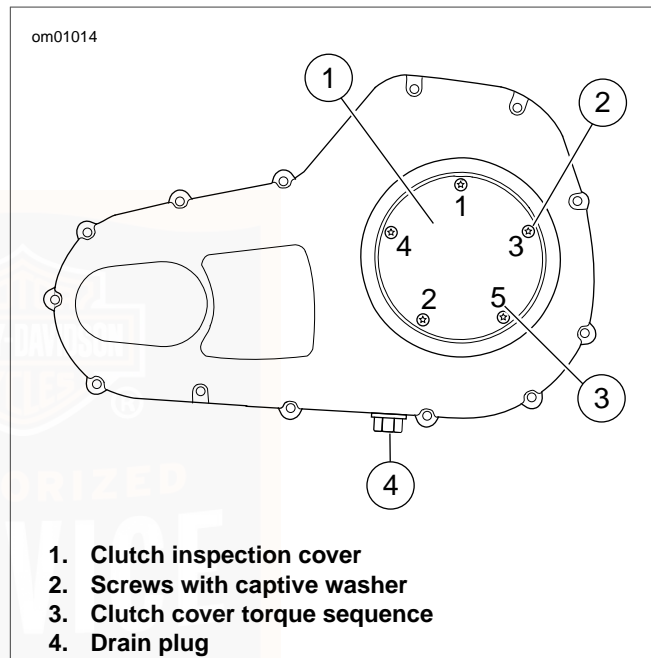

Figure 47. Primary Chaincase Cover
3. See Figure 47. Remove five screws to free clutch inspection cover from primary chaincase cover.
9. See Figure 47. Install clutch inspection cover to primary chaincase cover. Tighten screws in the sequence shown to 84-108 **in-lbs** (9.5-12.2 Nm).